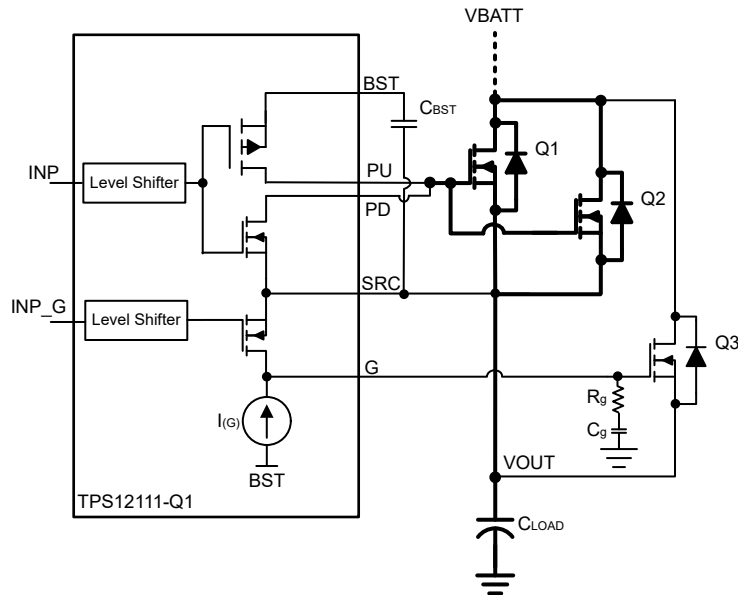

图 8-7. Capacitor Charging Using Gate Slew Rate Control of Precharge FET
The TPS1211-Q1 integrates precharge gate driver (G) with a dedicated control input (INP\_G). This feature can be used to drive a separate FET that can be used to precharge the capacitive load. 图 8-7 shows the precharge FET implementation for capacitive load charging using TPS1211-Q1. An external capacitor  $C_g$  reduces the gate turn-ON slew rate and controls the inrush current.